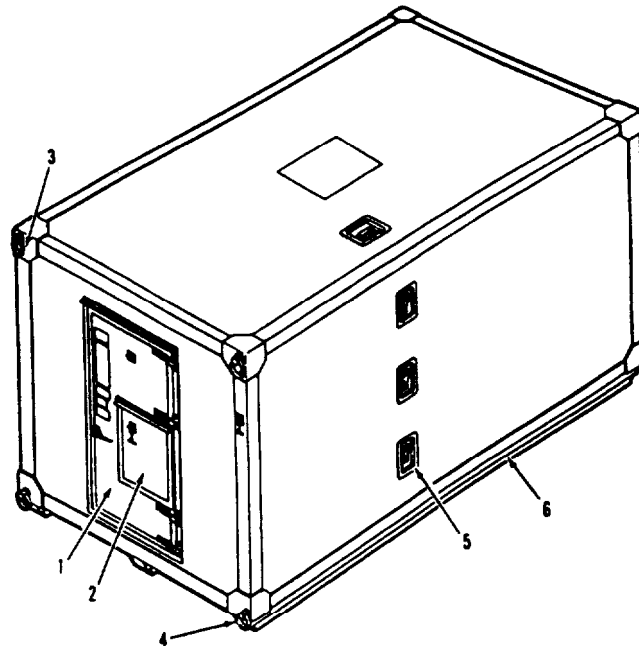

Figure 1-1. Major Shelter Components.
**1-9. Location and Description of Major Components.** (Figure 1-1)